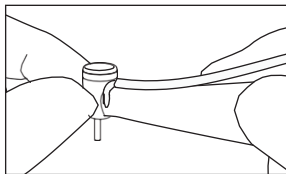

Fig.10
- 5) After the handpiece rotation has completely stopped, touch the handpiece head to confirm the head is NOT heating abnormally (Fig. 10).